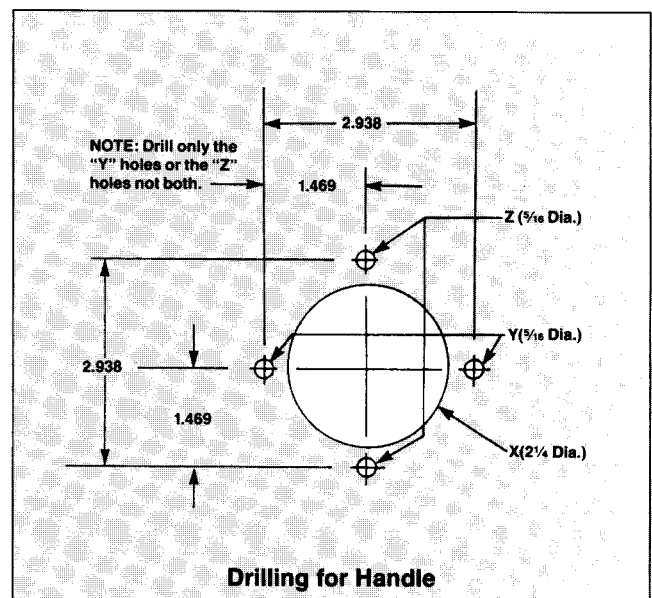

Figure 2a
- Find handle center dimensions **D** and **E** by adding enclosure thickness and cover overhang (**C₁** and **C₂**) to **A** - $\frac{11}{16}$ and **B** + $\frac{5}{16}$. Drill hole **X** ($\frac{1}{4}$ in. dia.) and drill either holes **Y** or **Z** ($\frac{5}{16}$ in. dia.) depending on handle orientation required (Figure 2a).